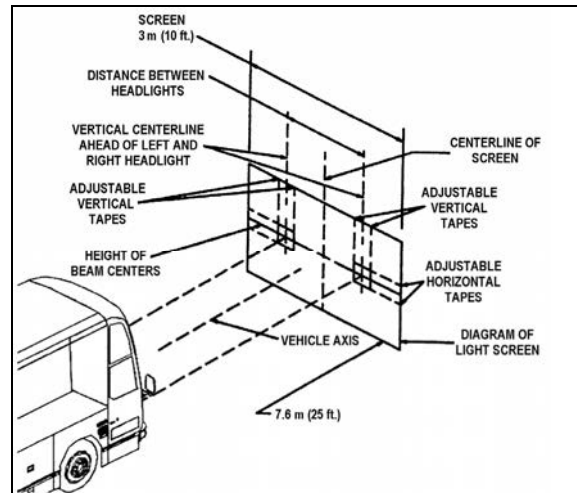

FIGURE 31: ALIGNMENT OF HEADLIGHT AIMING SCREEN
3. The headlight centerlines shall be spaced either side of the fixed centerline on the screen by $\frac{1}{2}$ the lateral distance between the light source centers of the pertinent headlights. The horizontal tapes should be located on the screen at the upper and lower limits called for in the specification with reference to the height of beam centers and the plane on which the vehicle rests, not the floor on which the screen rests (Fig. 31).